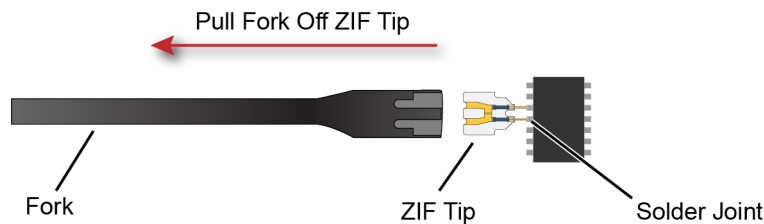

Figure 29 Removing the Handle from the ZIF Tip
- 6 Pull the ZIF handle from the ZIF tip in the direction shown in **Figure 29**. ZIF tips can be carefully handled with your fingertips and reinserted into a plastic handle if necessary.